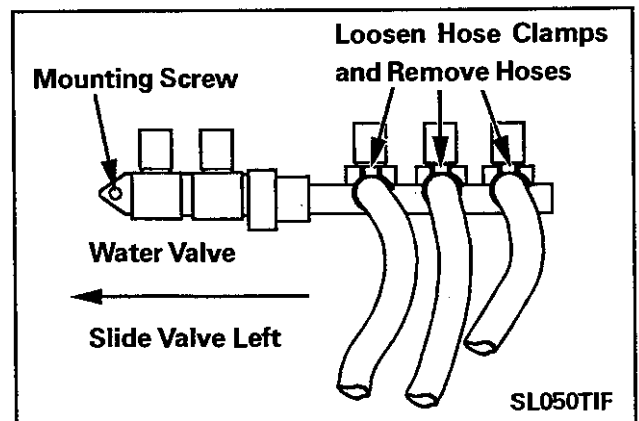

Figure 6-3
7. Locate and loosen the valve mounting screw by turning the screw at least three full turns. Note, the mounting screw serves as a locating pin to hold the valve in position on the mounting bracket. By partially removing the screw, the water valve can now be slid to the left and removed from the bracket (Figure 6-3).